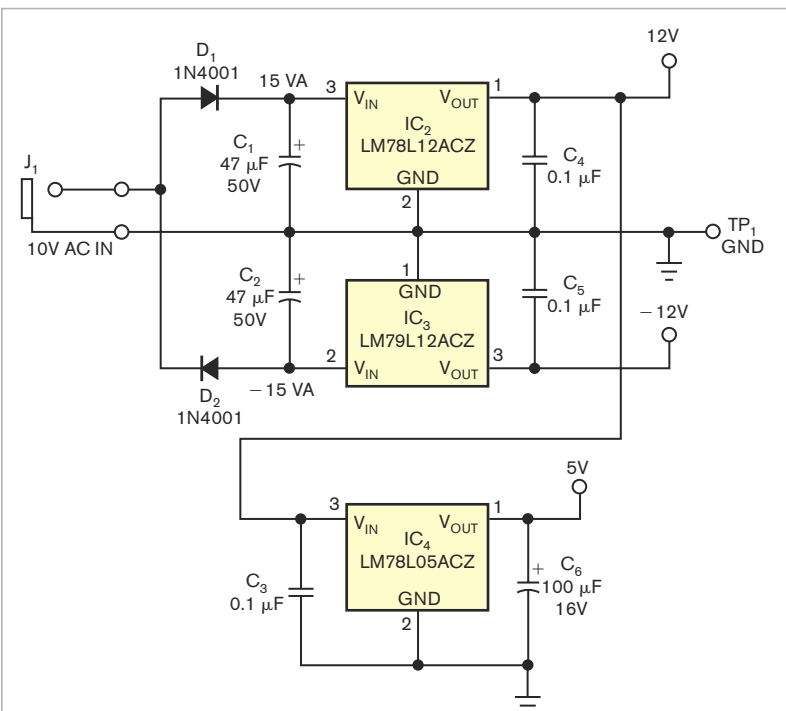

Figure 2 This ac/dc power-supply circuit powers the audio-signal router.
vent imbalance of the audio signal. It also needs a 5V supply for the logic input (VL), which lets you control the switching of the logic gates. **Figure 2** depicts the power-supply circuit, which requires a 10V-ac, 300-mA input. You can connect the enable input to a set/reset circuit or a flip-flop to toggle the internal switches from normally open to normally closed or from normally closed to normally open.